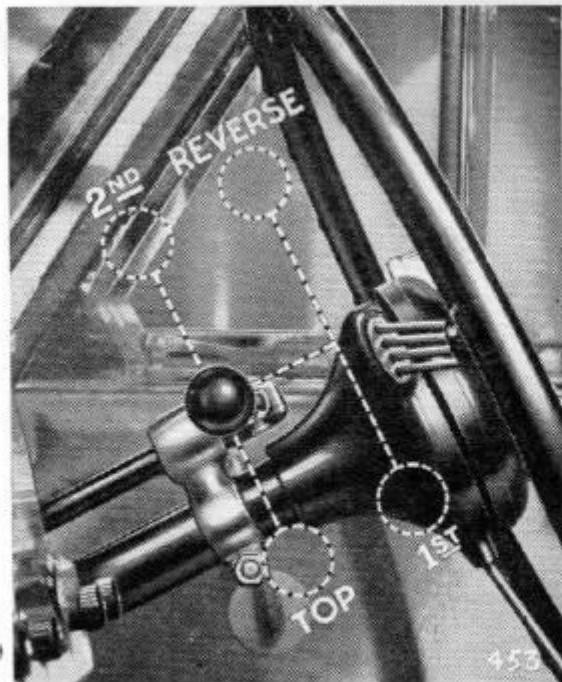

Fig. 3. Right-hand drive.
**Gear Lever.** For selecting the gears, see Figs. 3 or 4.